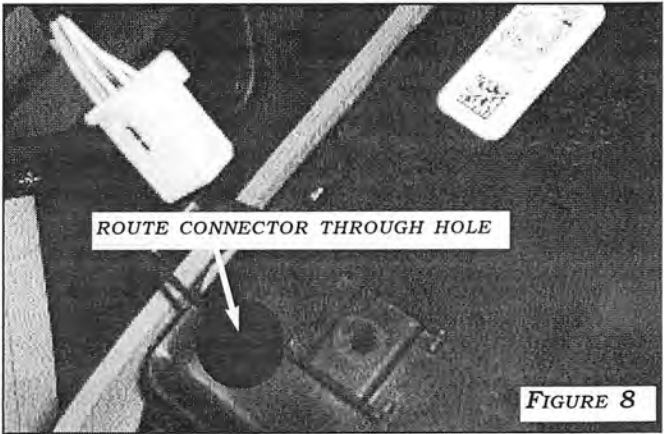
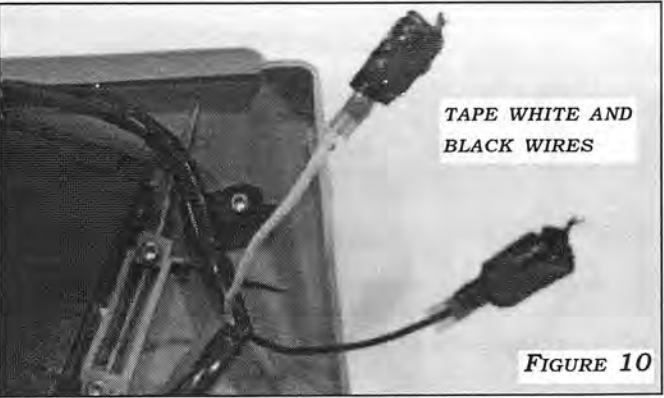

FIGURE 8
FIGURE 10
1. CONNECT DOME LIGHT HARNESS PREVIOUSLY DISCONNECTED. ROUTE THE VEHICLE 12-PIN CONNECTOR THROUGH DRILLED HOLE IN CONSOLE. CONNECT MONITOR HARNESS TO FACTORY HARNESS. WRAP THE CONNECTORS WITH THE SUPPLIED FOAM TAPE. FIGURES 8,9. BE SURE TO TAPE THE UNUSED WHITE AND BLACK WIRES FROM MONITOR HARNESS WITH ELECTRICAL TAPE. FIGURE 10